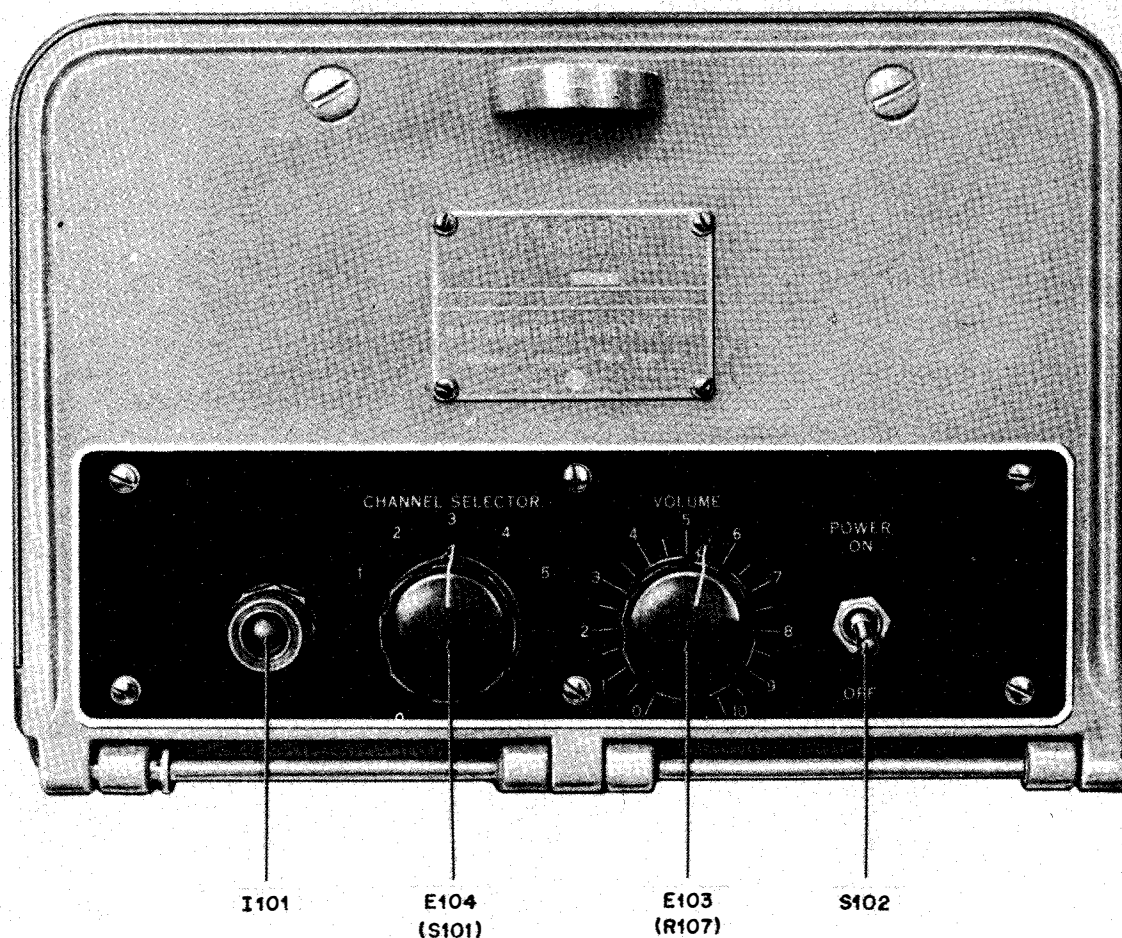

Figure 4-1. Operating Panel of A.F. Amplifier AM-215B/U
d. The variable resistor R107 is the amplifier gain or volume control. It is operated by the VOLUME control knob E107 (see figure 4-1). The resistor R108 is the cathode bias and feedback for electron tube V101A.
a. The power supply furnishes all plate and filament power for the amplifier from an AC power source as specified. The rectifier tubes V104 and V105 are connected in a full-wave rectifier circuit with transformer T103. Two tubes are used to handle the current required by the amplifier. The filtering is done by C106, C107 and L101. Two fuses F101 and F102 are used in the line for protection against overload. The switch S102 is used to turn the POWER ON or OFF (see figure 4-1). The power transformer T103 provides from its secondary windings voltages of 535 volts and 6.3 volts for plate and filament power. L101 is used as a filter choke reactor.
b. Operate all signal sources and turn the CHANNEL SELECTOR control knob (E104) to each of the five positions noting whether each signal is reproduced normally. Check the operation of the VOLUME control, (E103). (See figure 4-1.)
a. The operating controls of the A.F. Amplifier AM-215B/U are shown in figure 4-1.